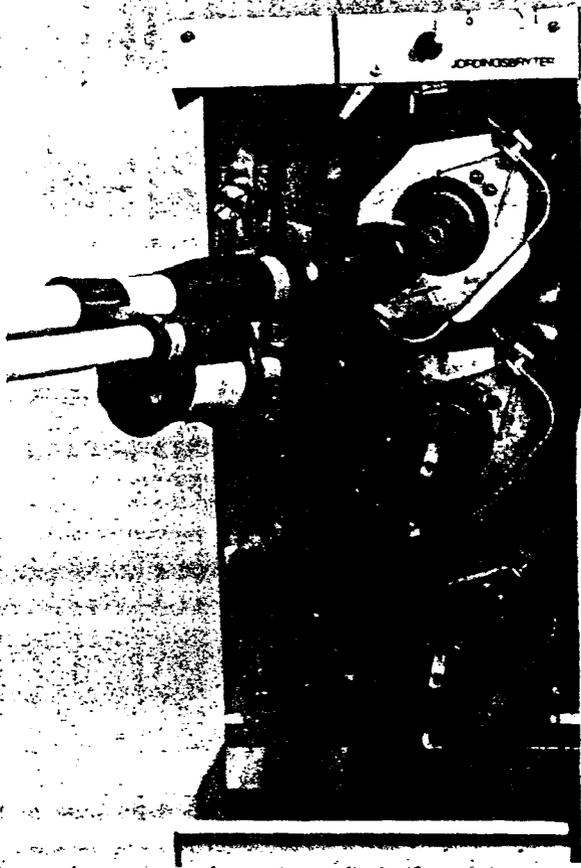

Fig. 8 Elastimold elbow connectors, T-off (fuse switch module).
- a combined rod for capacitive voltage testing and operating of the elbow connectors, fig. 8.